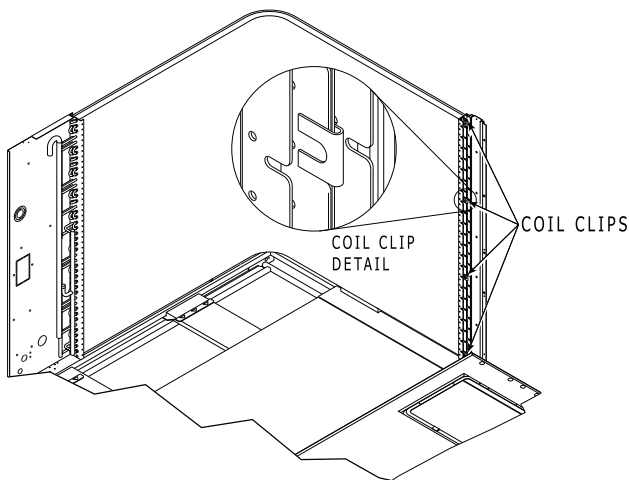

Fig. 22 — Condenser Coil Clips
5. Remove the screws from both sides of the 4 coil retaining clips on the hairpin end of the coil tube sheets. See Fig. 22.